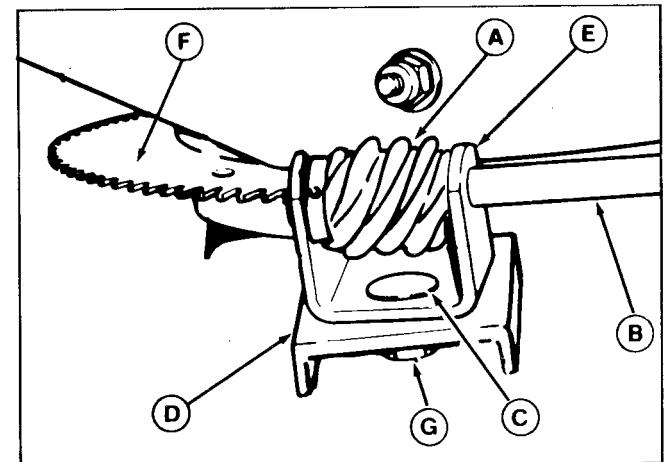

Figure 24. Discharge Control
If the discharge control is difficult to operate, first lubricate the pinion gear (A, figure 24) and ring gear (F). The pinion gear can be adjusted by loosening the nut (G) which holds the pinion gear bracket in the slotted hole. If the pinion gear is too tight against the ring gear, move it away slightly and then retighten the nut. Check operation again.